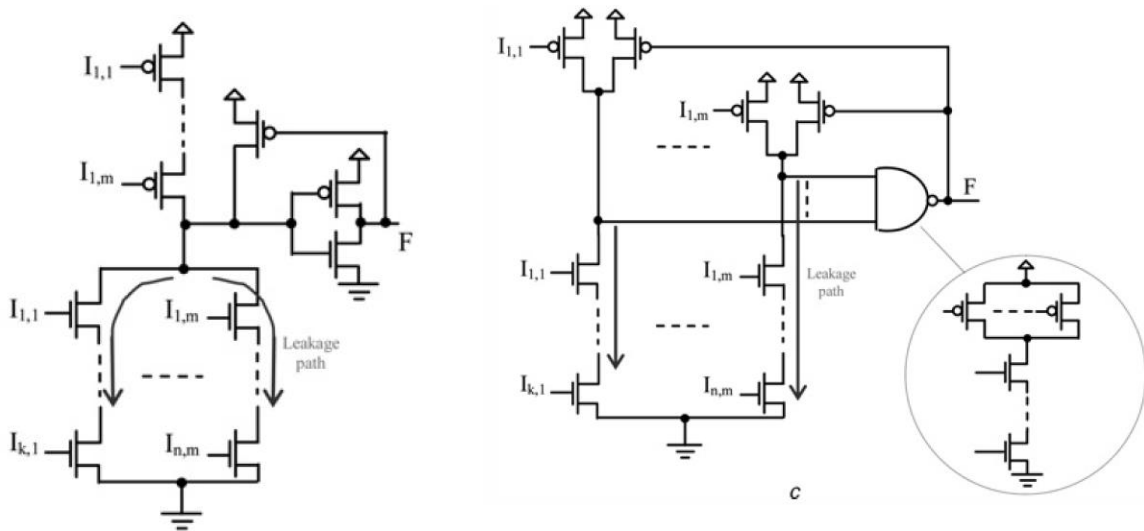

Figure 1. a) D3L implementation of  $F$
Figure 1 illustrates implementation of the generic sum of product (SP) function using both methods: